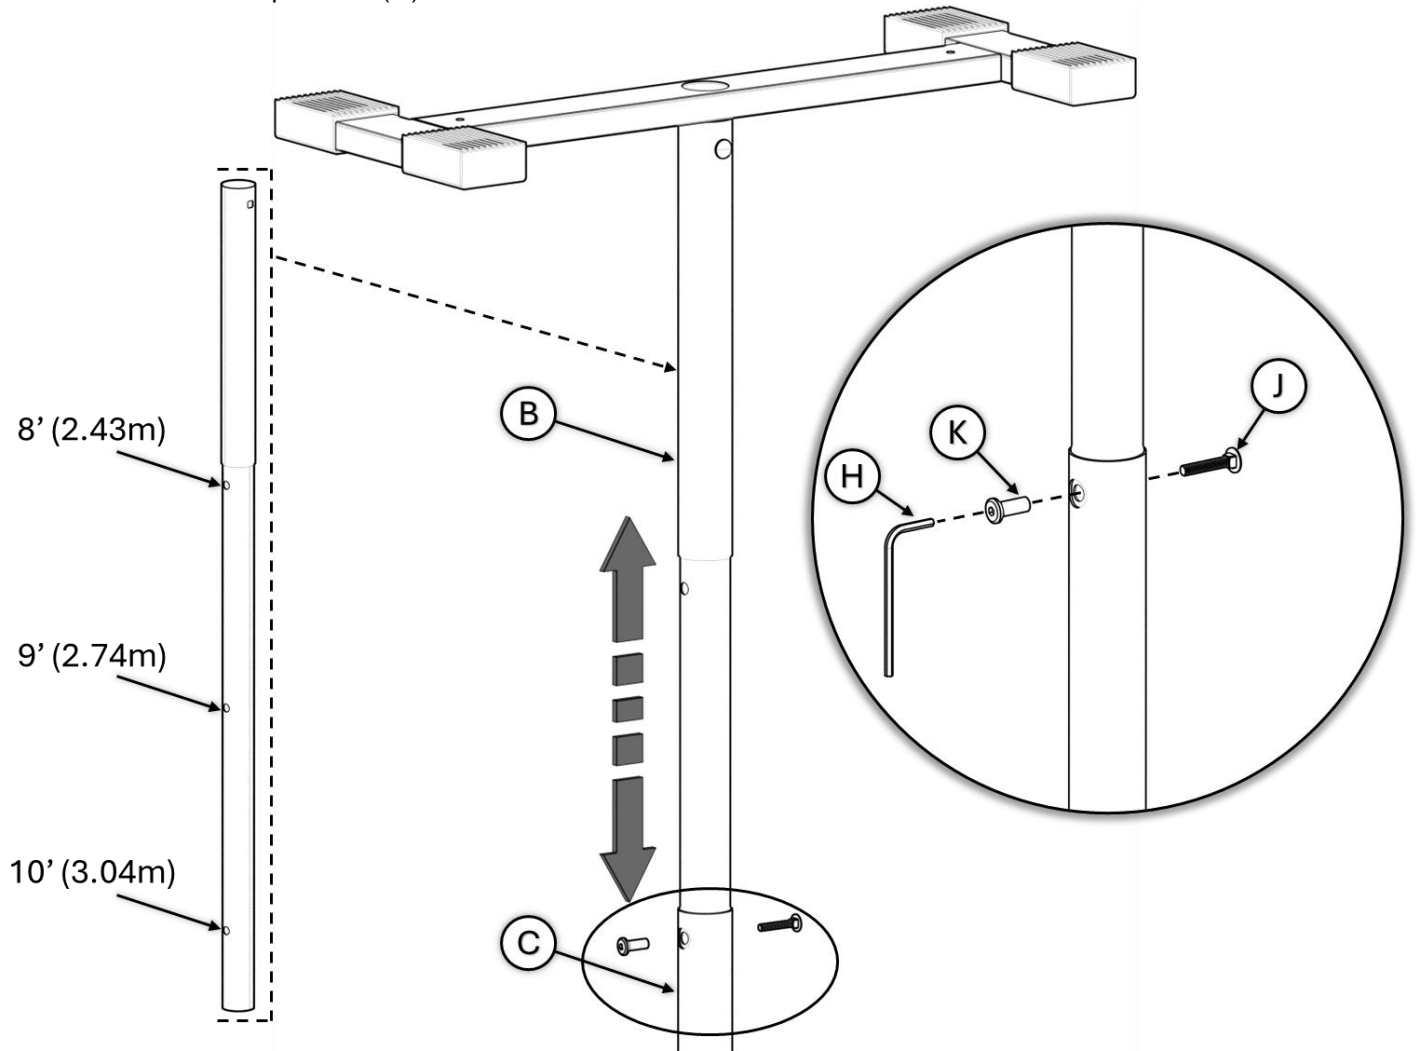

FIGURE 3
3. Determine height between the floor and ceiling and align the appropriate hole in **B** with the hole in **C**. Insert **J** and **K**, and secure with the tool provided (**H**) as shown in *FIGURE 3*